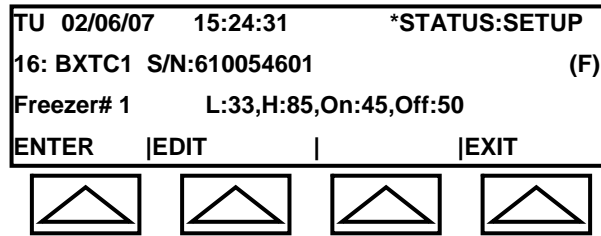

Fig. 1.5a: Temperature Sensor Screen
The Temperature Sensor Screen is displayed (see Figure 1.5a).
*Note: Label options such as those shown in Line 4 of Figure 1.2a, are displayed only for sensors where a label has not been assigned. When a label has already been assigned, Line 4 will appear as shown in Figure 1.5a.*